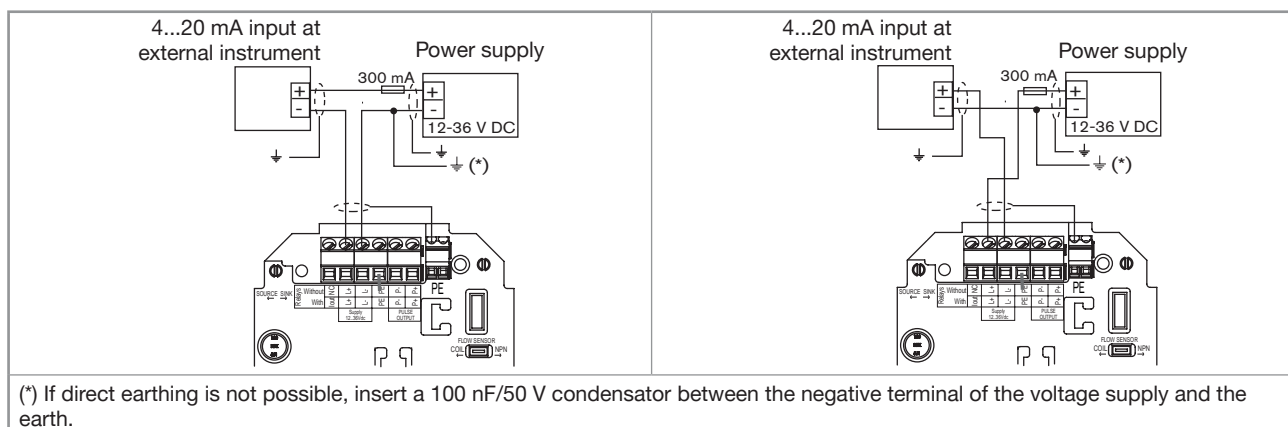

Fig. 39: Possible wiring of the current output of a version 12...36 V DC, without relays
- Wire the current output according to Fig. 39.